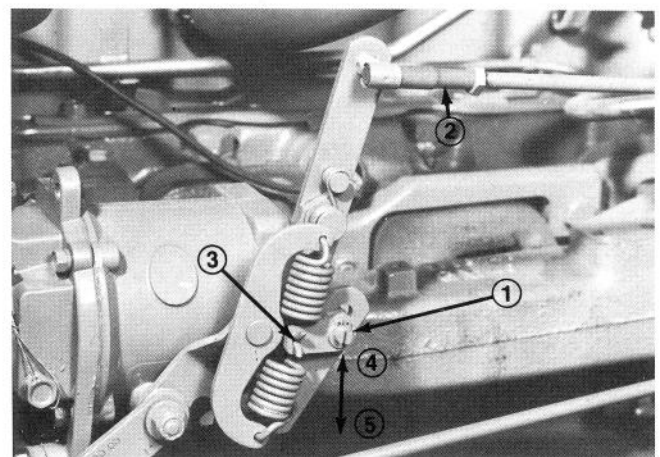

Figure 54
5. To stabilize the governor, eliminate hunting, or to increase the spread of RPM between no-load and full load, loosen the locknut on the regulation screw (Fig. 54), turn the screw counterclockwise 1/8 turn, and tighten the locknut. Readjust hand throttle lever to obtain 1600 RPM. Repeat this procedure as required for proper engine operation.